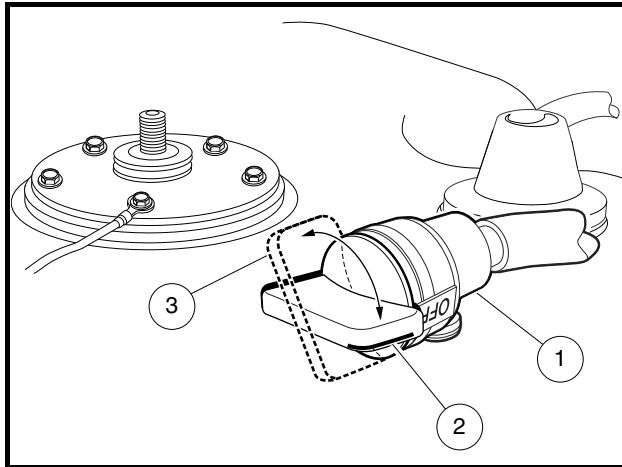
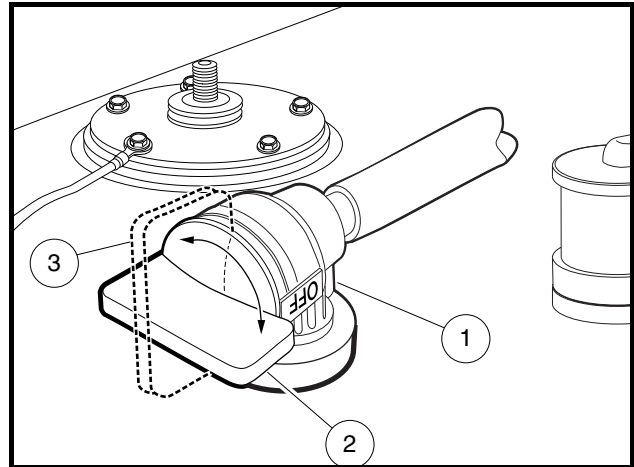

Figure 3-3 Fuel Shut-off Valve – 49-State Fuel Tank
Figure 3-4 Fuel Shut-off Valve – California Fuel Tank
- Turn fuel shut-off valve to closed (OFF) position (Figure 3-3, Page 3-3) (Figure 3-4, Page 3-3).
- 4.1. Place the Forward/Reverse handle in the NEUTRAL position and the neutral lockout switch in the MAINTENANCE position. Turn the fuel shut-off valve to the closed (OFF) position (**Figure 3-3, Page 3-3**) (**Figure 3-4, Page 3-3**) and run the engine until fuel remaining in the carburetor and fuel lines is depleted and the engine stalls. Return the neutral lockout switch to the OPERATE position.
- 2.1. Remove plug from the fuel tank vent nipple and connect fuel vent line to nipple. Open the fuel shut-off valve (**Figure 3-3, Page 3-3**) (**Figure 3-4, Page 3-3**). Make sure the valve is fully open. A partially closed fuel shut-off valve combined with the use of the choke can result in a fouled spark plug and engine failure.